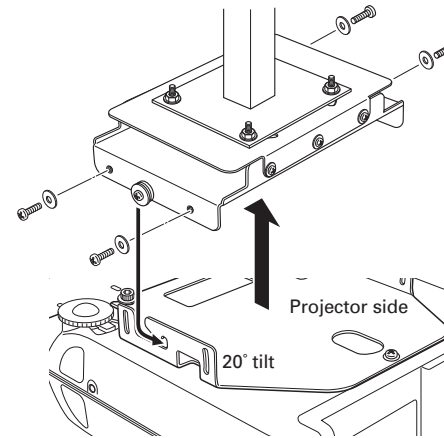

Figure 19
2. Lift and slide the projector onto the 1/4-20 inch screws previously installed in the metal studs of the plate on the ceiling (see arrow in Figure 19). Tighten the 1/4-20 inch screws on both sides of the mount and install two 6mm screws and washers into the side of the projector Mounting Plate 4. Refer to Figure 19.